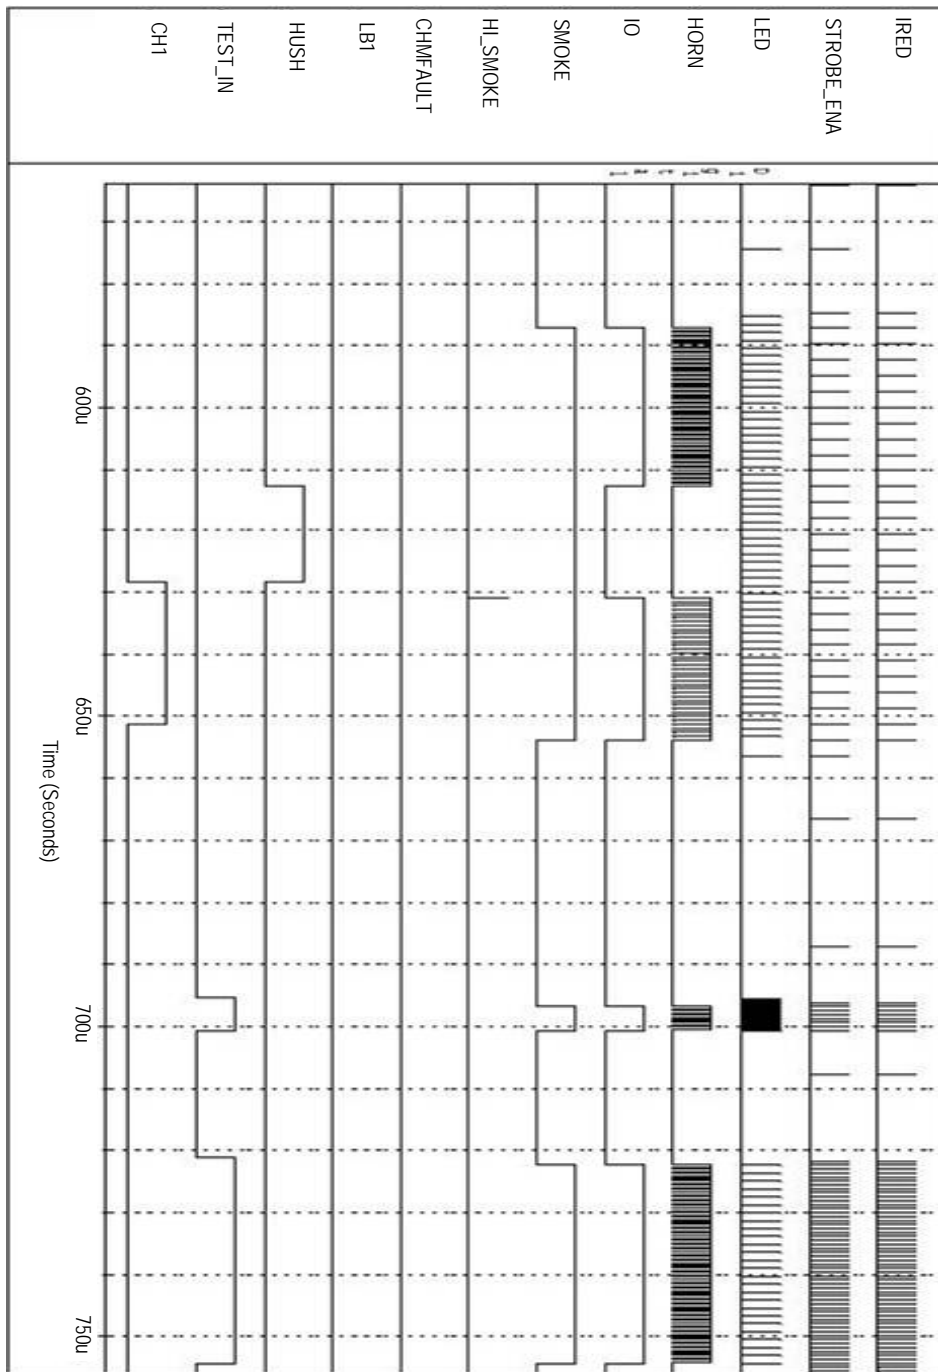
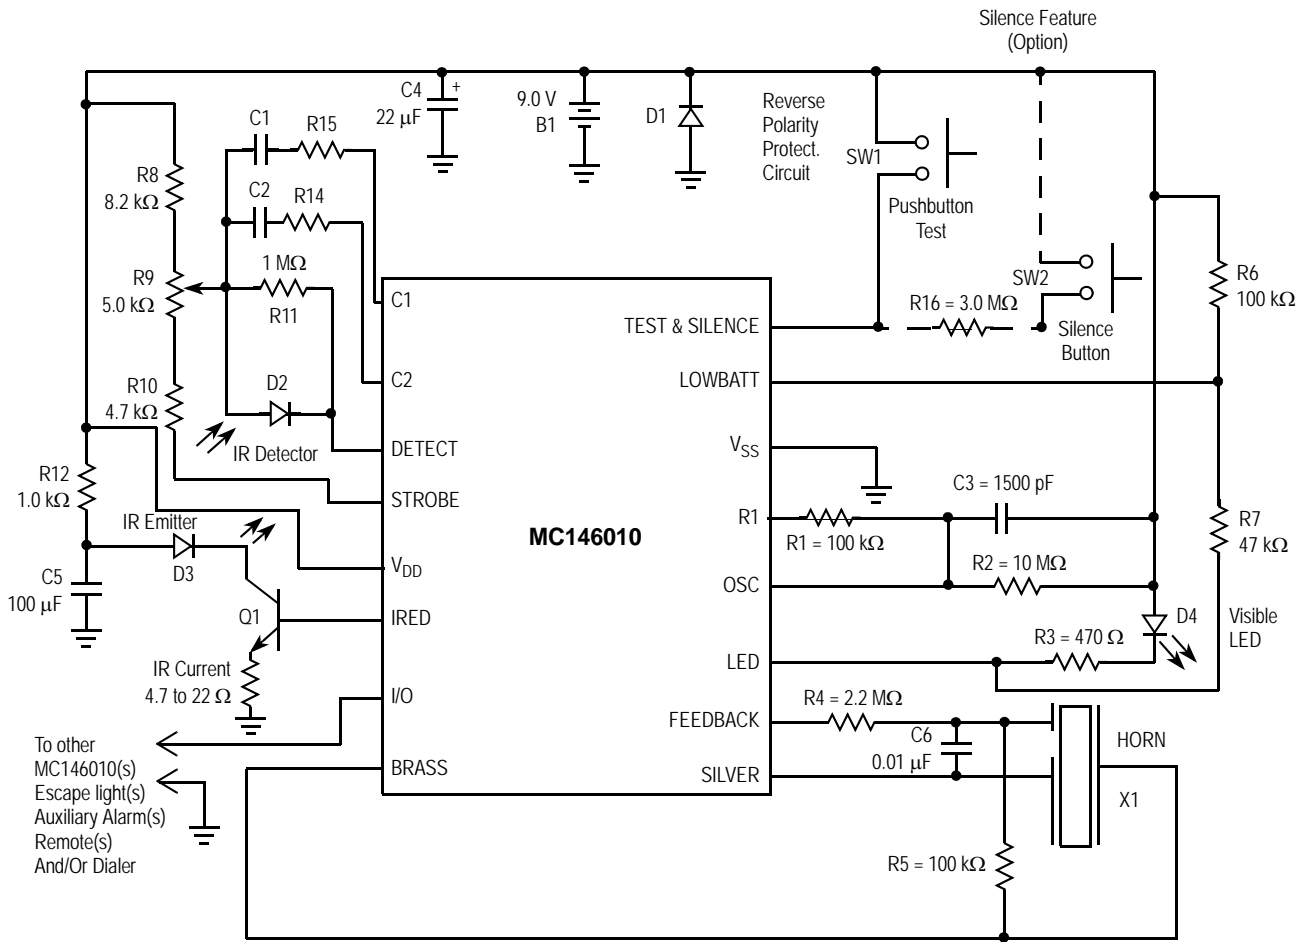

Figure 4. Typical Local Smoke Timing MC146010 Device
Figure 5. Typical Battery Powered Application
* $T_A = 25^\circ\text{C}$ Only**Table 3. AC Electrical Characteristics** (Refer to Timing Diagram Figure 3 and Figure 4. $T_A = 25^\circ\text{C}$, $V_{DD} = 9.0\text{ V}$, Component Values from Figure 5.)
Table 3. AC Electrical Characteristics (Refer to Timing Diagram Figure 3 and Figure 4. $T_A = 25^\circ\text{C}$, $V_{DD} = 9.0\text{ V}$, Component Values from Figure 5.) (continued)
A capacitor connected to this pin as shown in Figure 5 determines the gain of the on-chip photo amplifier during pushbutton test and chamber sensitivity test (high gain). The capacitor value is chosen such that the alarm tripped from background reflections in the chamber during pushbutton test.
A capacitor connected to this pin as shown in Figure 5 determines the gain of the on-chip photo amplifier during pushbutton test and chamber sensitivity tests.
The LED also provides a visual indication of the detector status as follows, assuming the component values shown in Figure 4:
In the Calibration mode, the IRED pulse rate is increased. An IRED pulse occurs every clock cycle. Also, Strobe is always Active Low. It is recommended to short R12 (Figure 5) in this mode. This will allow for a similar recovery of the emitter circuitry as in normal operation. Pin 1, pin 2, and pin 12 should be buffered with a unity gain amplifier to measure their outputs.